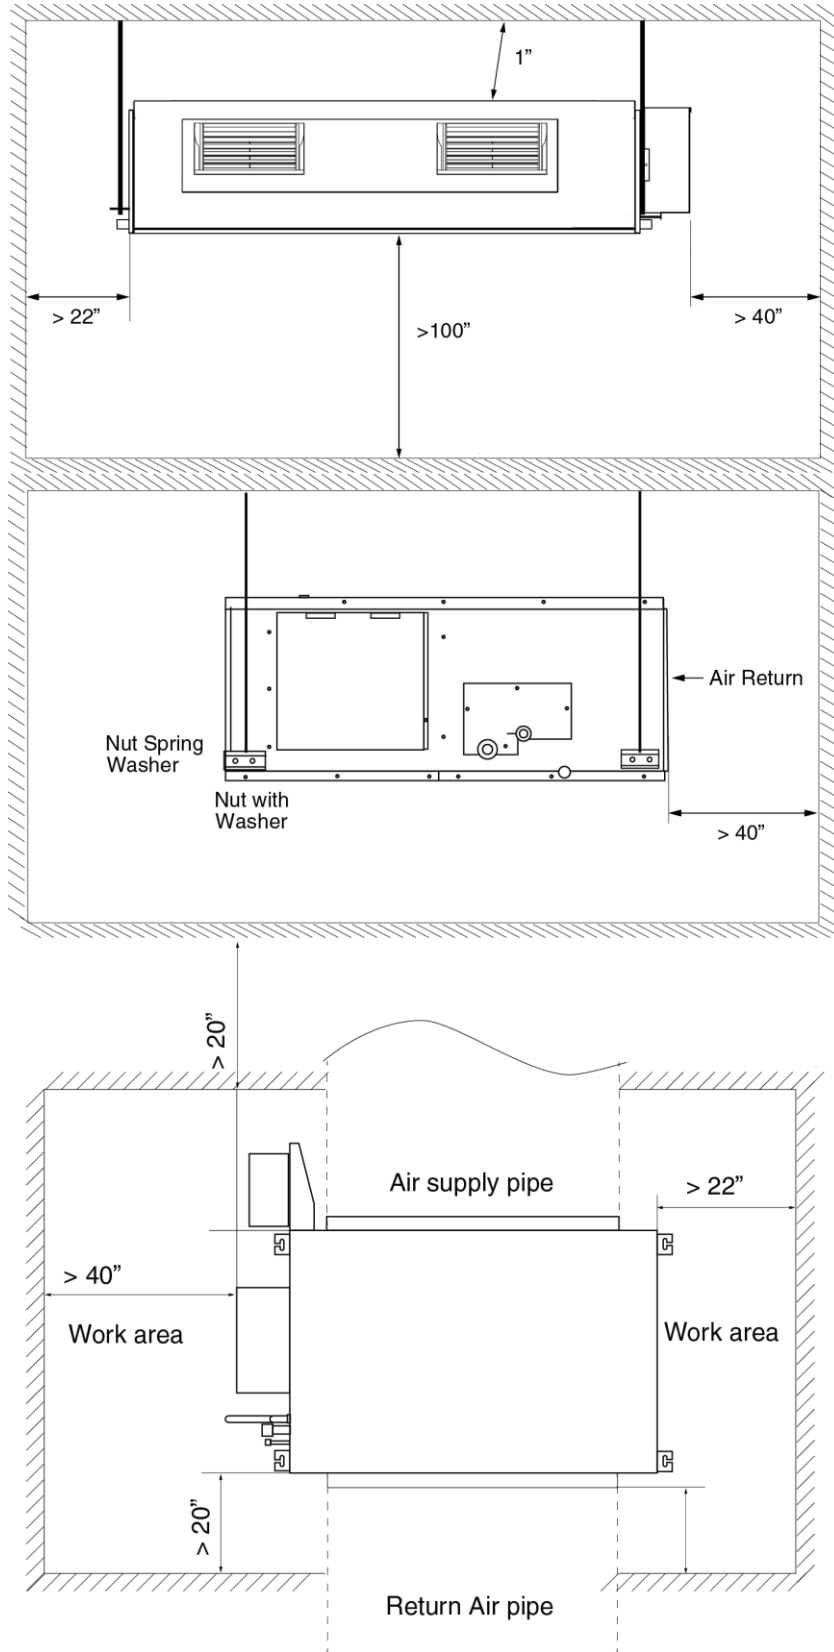

Fig. 1
9. There should be adequate space around the unit for proper maintenance and service. Install the indoor unit according to the dimension described below in (Fig. 1).